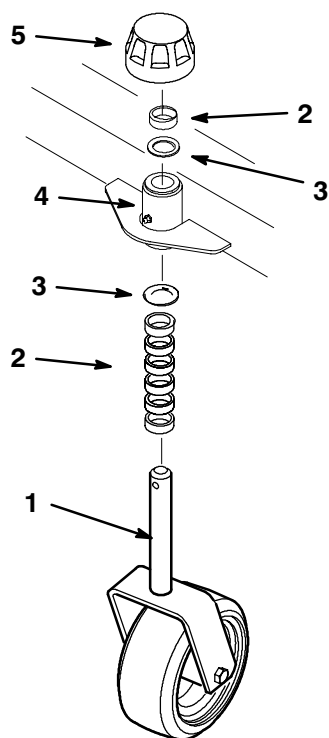

Figure 11
3. Remove the cap securing the castor spindle to the frame bracket (Fig. 11).
4. Move desired amount of spacers to the top or bottom of the bracket (Fig. 11). Ensure that the spacers are equal on both castor wheels and that a thrust washer is positioned on each side of the frame bracket.
5. Install the cap and lower the broom (Fig. 11).